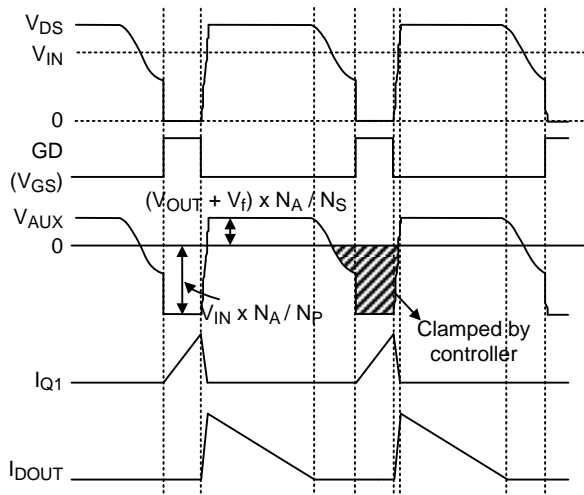

Figure 3. Key Waveforms of a Flyback Converter
RT7310 needs no shunt regulator and opto-coupler at the secondary side to achieve the output current regulation. Figure 3 shows several key waveforms of a conventional flyback converter in Quasi-Resonant (QR) mode, in which  $V_{AUX}$  is the voltage on the auxiliary winding of the transformer.